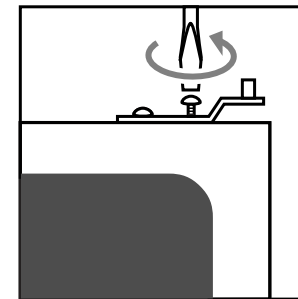

fig. 7b
- Remove the hinge that is now at the top (see fig. 7b). Attention: the ring belongs in the lower hinge.